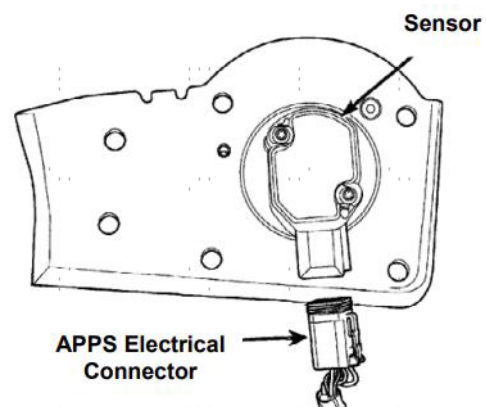

Figure 2
3. Disconnect the electrical connector from the APPS assembly (figure 2).